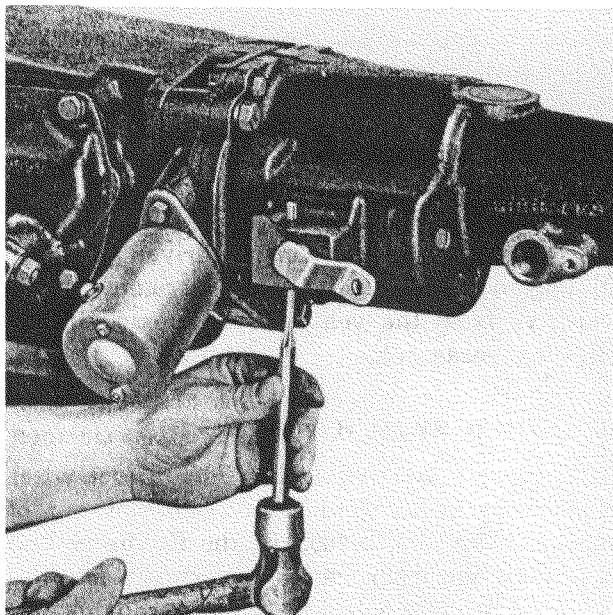

Fig. 29—Removing Control Shaft Tapered Pin
8. Drive out the control shaft tapered pin (fig. 29) and pull control shaft out.